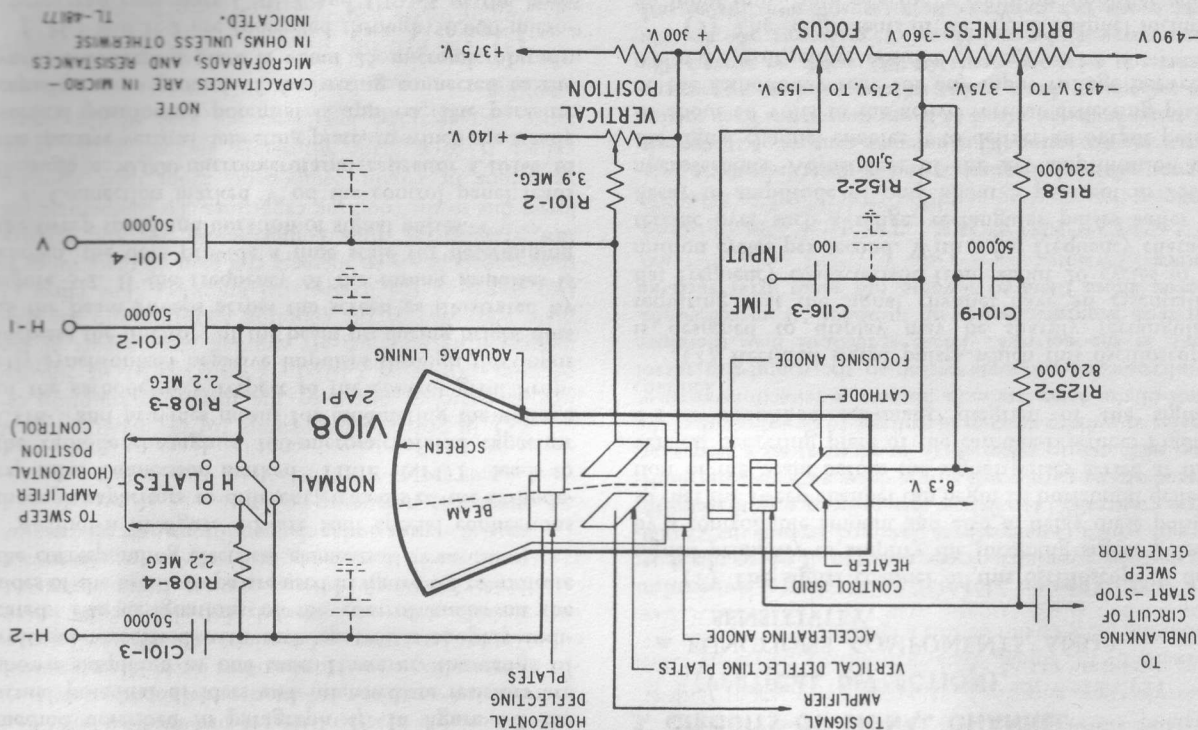

Figure 4-2. Cathode-Ray Tube, Beam Controls, and Special Connections—Simplified Schematic
b. Figure 4-2 is a diagrammatic representation of this tube, its direct voltage controls, and special connections. The total voltage needed to operate the tube is approximately 800 volts. This voltage is obtained from a multi-element potential divider connected between the positive and negative filtered outputs of two rectifiers in the power supply circuits described in paragraph 5. The power supply also provides an isolated a-c supply for the cathode heater as the latter must be kept at the potential of the cathode.